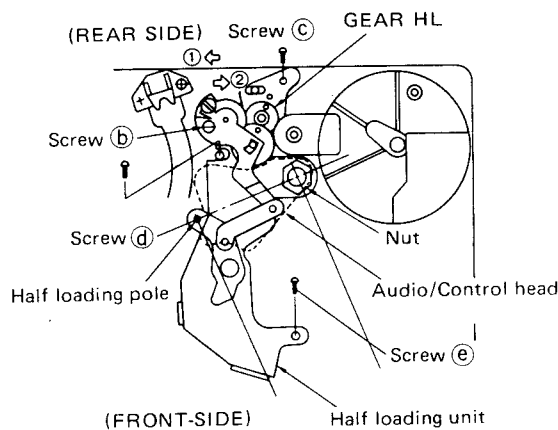

Fig. 4-8
- ① Top cover
- ② Audio/Control head
- ③ Taper nut
- ④ Front loading unit
- ⑤ Half loading unit (Set Screws ③, ④ and ⑤ are shown in Fig. 4-8).
- 3) Remove the set screw ③ in the half loading unit and loosen the set screws ④ and ⑤ (see Fig. 4-8). Slide the half loading unit in the direction of the arrow ① ⇐ to align the three holes B, C and D in the half loading gear to the position shown in Fig. 4-9.
- 4) Slide the half loading unit in the direction of the arrow ② ⇐ and secure in this position with screws ③, ④ and ⑤. Adjust the half loading pole position according to 4-5-3 before performing interchangeability and A/C HEAD adjustments and secure it with screw ⑥ for the time being.